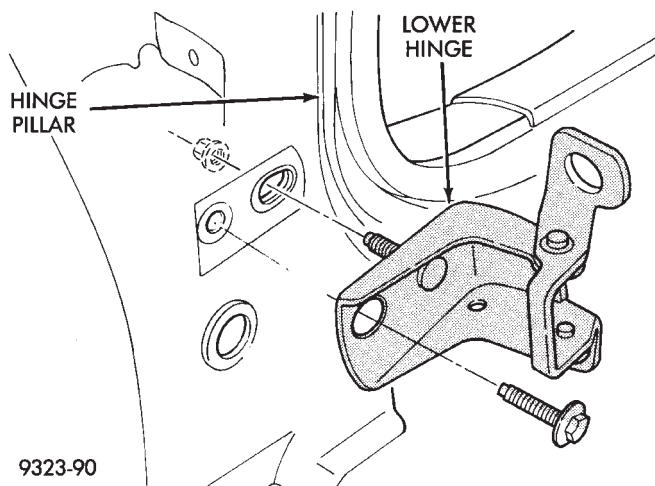

Fig. 31 Front Door Lower Hinge
- (1) Remove front door.
- (2) Mark location of hinge on hinge pillar
- (3b) On lower hinge, remove cowl side trim panel and remove nut holding hinge to back of hinge pillar (Fig. 31).
- (4) Separate hinge from vehicle.
- (1) Place hinge in position on vehicle.
- (2a) On lower hinge, Install nut and bolt to hold hinge to hinge pillar (Fig. 31) and Install cowl side trim panel.
- (3) Install front door.
- (4) Verify door alignment and operation, adjust as necessary.